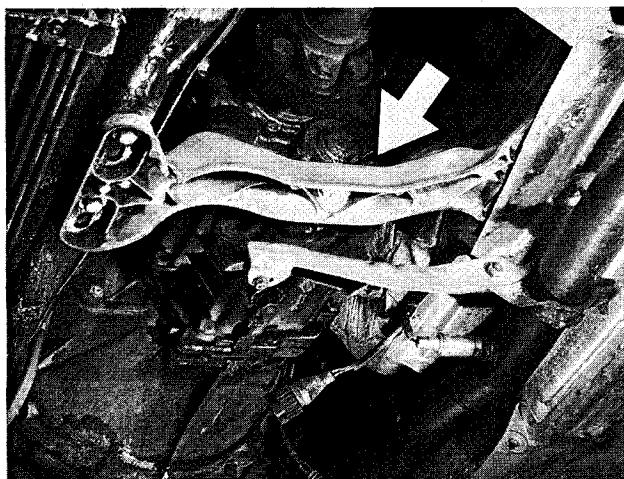

Fig. 2. Rear transmission crossmember (arrow).
6. Support transmission with transmission jack. Remove crossmember from rear of transmission. See Fig. 2.